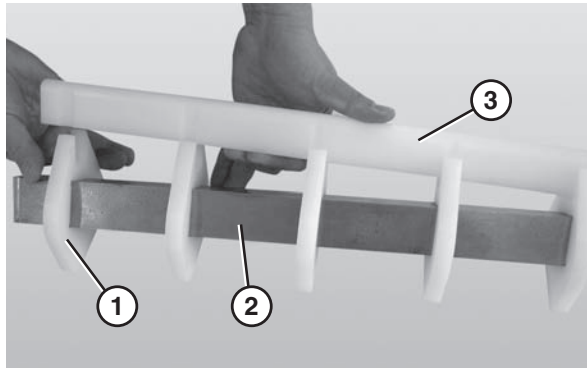

Figure 74
- Remove the nose bar wear strip (**Figure 74, item 3**).
- Slide the nose bar pucks (**Figure 74, item 1**) off the nose bar shaft (**Figure 74, item 2**).